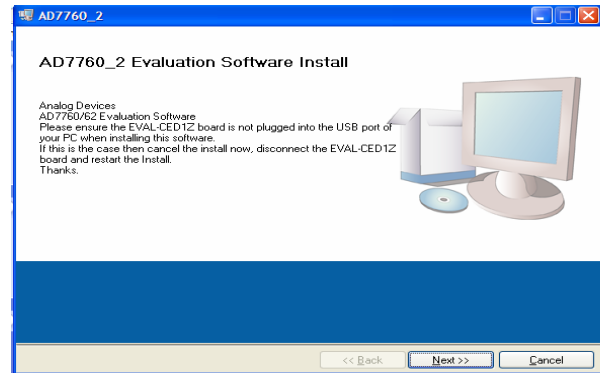

Figure 2. EVAL- AD7760_2EDZ Setup Dialog Box, Initial Software Install Screen
2. The dialog box shown in Figure 2 appears.